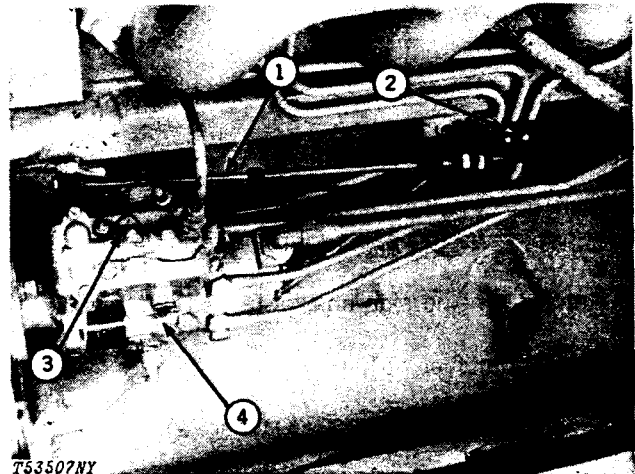

Fig. 4-Speed Control Cable and Fuel Shut-Off Wiring
Disconnect speed control cable (1, Fig. 4) and bracket (2).
Disconnect fuel shut-off wiring (3, Fig. 4) from fuel injection pump (4).